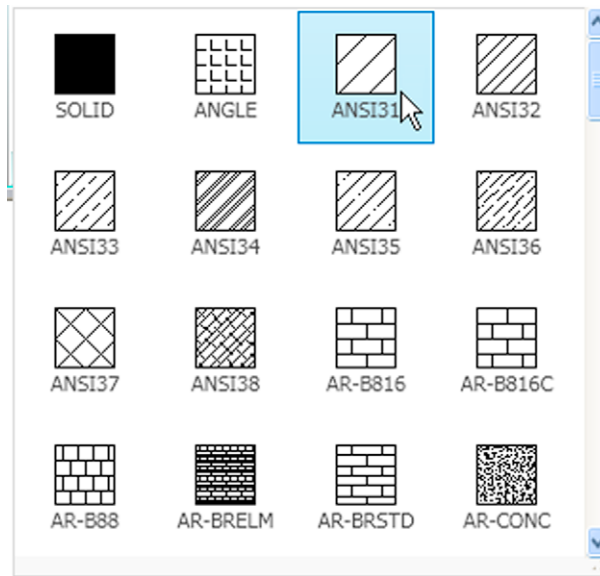

Fig. 7.13 Selecting **ANSI31** pattern from the **Hatch Creation/Pattern** panel
2. In the **Hatch Creation/Pattern** panel *click* the bottom arrow on the right of the panel and from the palette which appears *pick* the **ANSI31** pattern (Fig. 7.13).